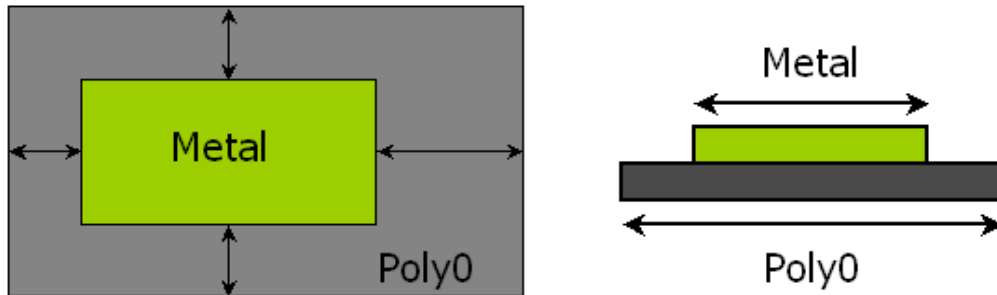

Figure 61: Metal enclosed by Poly0 layer
- The metal layer must be completely surrounded by the Poly0 layer by a minimum of 6 μm (Figure 61).